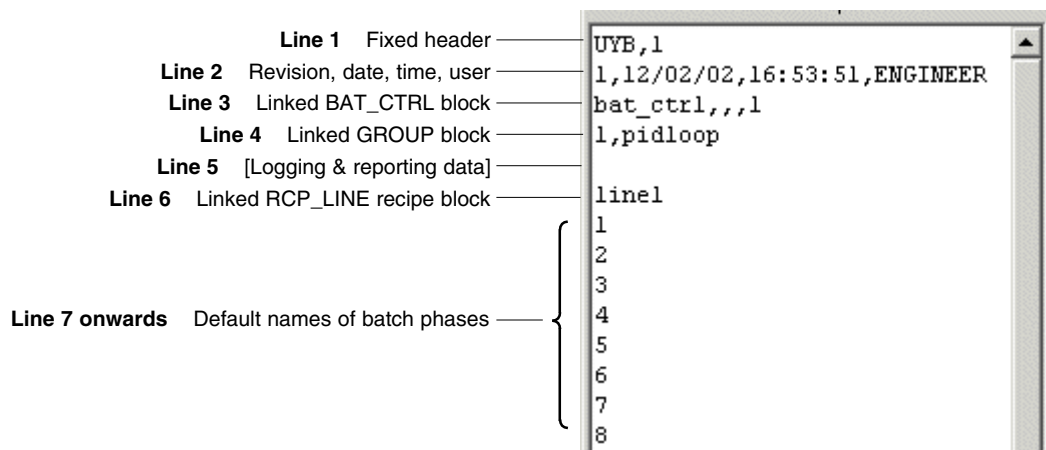

Figure 6-6 The batch.uyb file before editing
- 1 Open up the 'batch.uyb' file in 'Notepad' or similar editor/spreadsheet. (Right-click the file in Explorer and select *Open With*. Then select *Notepad*.) The file should look something like the text window shown in Figure 6-6.